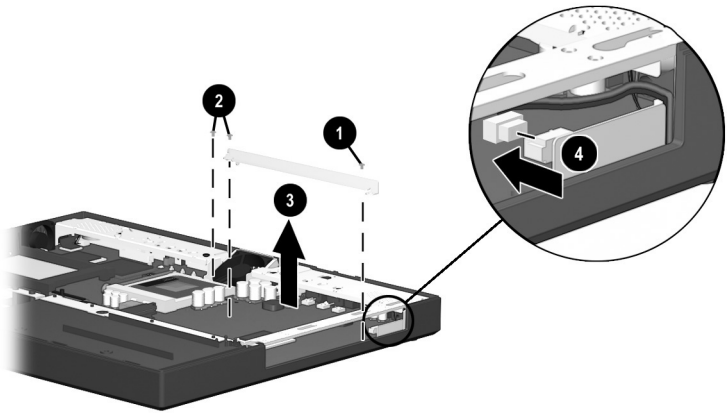

Figure 5-25: Removing the Interior System Board Screws, Optical Drive Alignment Rail, and Disconnecting the Microphone Cable
5. Remove the M2.5 × 5.5 screw ❶ securing the optical drive alignment rail to the base enclosure (Figure 5-25).
6. Remove the two M2.5 × 5.5 screws ❷ securing the system board to the base enclosure.
7. Remove the optical drive alignment rail ❸.
8. Disconnect the microphone cable ❹ from the system board.